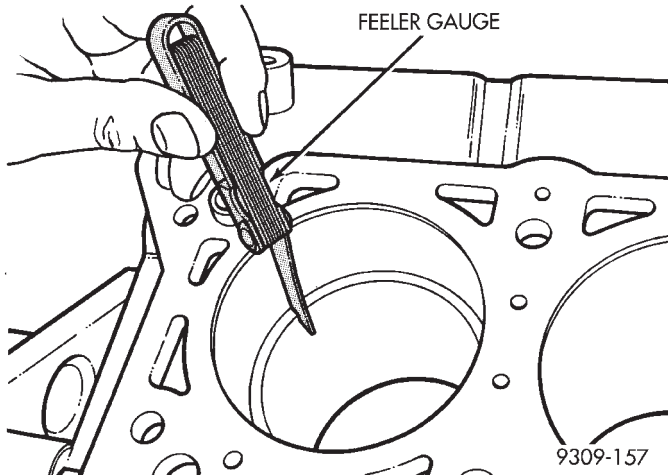

Fig. 5 Piston Ring Gap
(1) Wipe cylinder bore clean. Insert ring and push down with piston to ensure it is square in bore. The ring gap measurement must be made with the ring positioning at least 12 mm (0.50 inch) from bottom of cylinder bore. Check gap with feeler gauge (Fig. 5). Refer to Piston Ring Specification Chart.